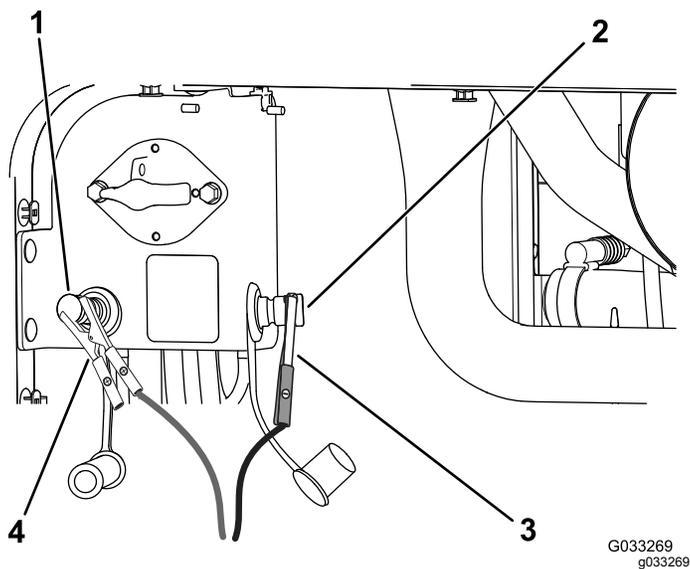

Figure 115
4. Connect the positive lead of the battery charger to the positive jump post (Figure 115).
- Connect the negative lead of the battery charger to the negative jump post (Figure 115).
- When the batteries are fully charged, unplug the charger from the electrical source, then disconnect the charger leads from the jump posts (Figure 115).